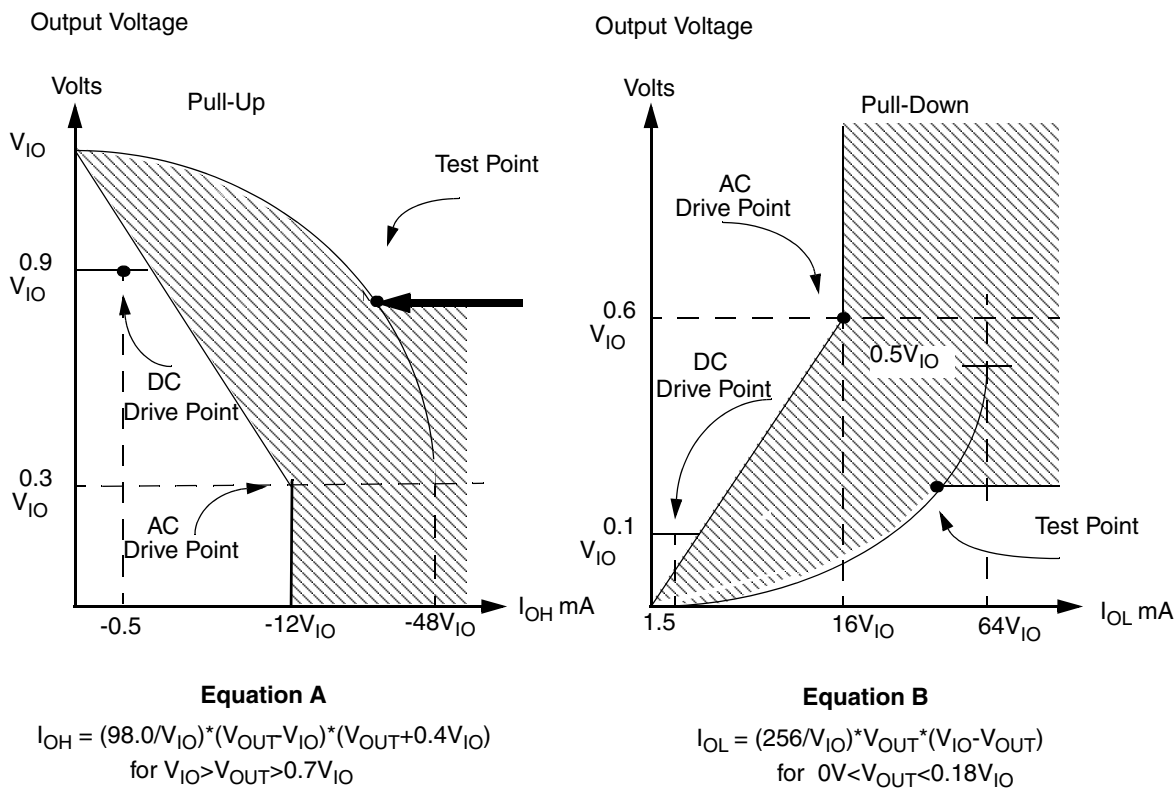

Figure 9-13. V/I Curves for PCI Output Signals
All parameters in Table 9-23 are not 100% tested. The parameters in this table are further described in Figure 9-13.
- Note 1. Refer to the V/I curves in Figure 9-13. This specification does not apply to PCICLK0, PCICLK1, and PCIRST# which are system outputs.
- Note 2. Maximum current requirements are met when drivers pull beyond the first step voltage. Equations which define these maximum values (A and B) are provided with relevant diagrams in Figure 9-13. These maximum values are guaranteed by design.